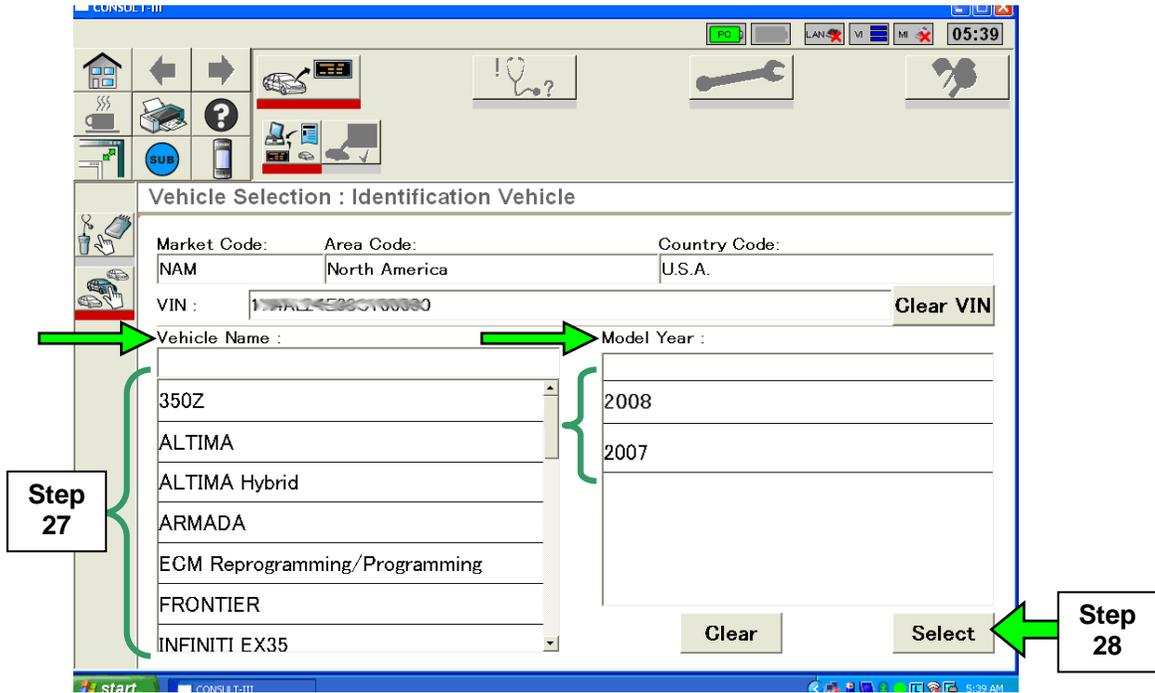

Figure 13
27. Select the correct **Vehicle Name** and **Model Year** from the list (see Figure 13 for example).
28. Select **Select** (see Figure 13).